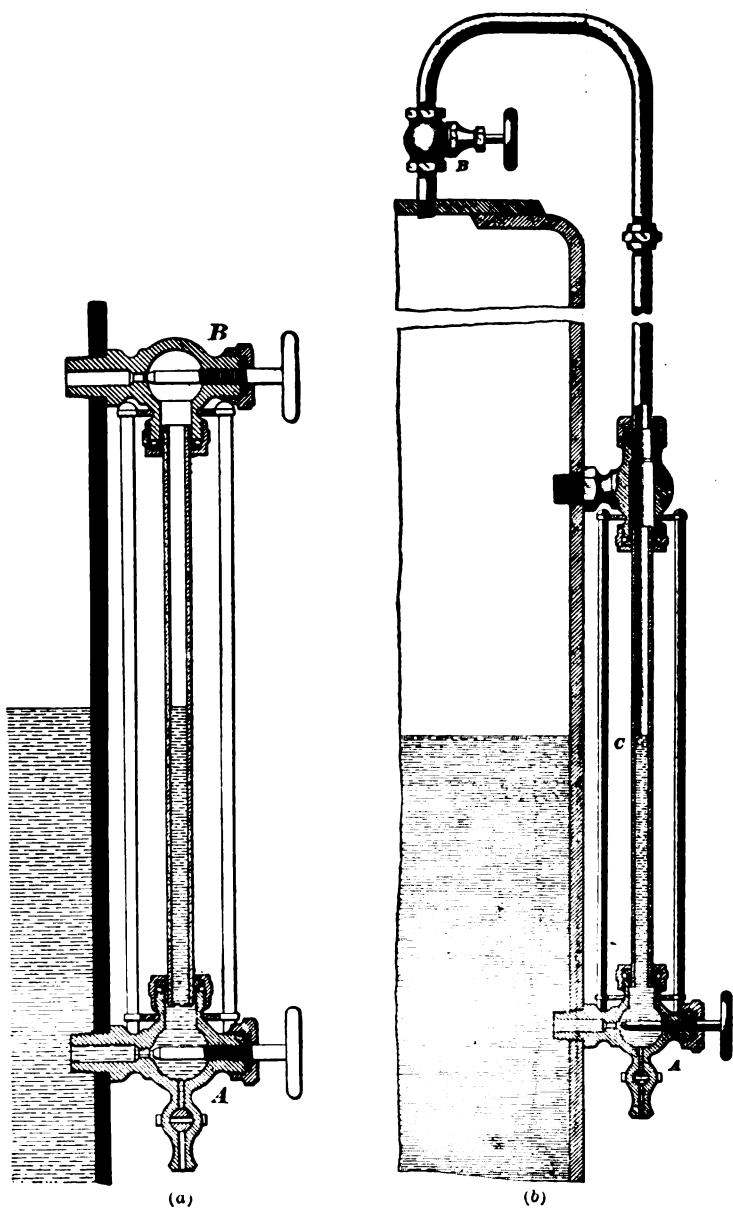

FIG. 1.
**3. Water Gauge.**—As shown in Fig. 1 (a), the **water gauge** consists of two elbow valves *A* and *B*, communicating with each other by means of the glass tube *C*. This tube is usually  $\frac{5}{8}$  inch outside diameter,  $\frac{1}{8}$  inch thick, and from 10 to 15 inches long; steam-tight joints are made between glass and metal by means of rubber gaskets. On some engines the lower valve *A* is so placed that the bottom of the glass is at the same height as the center of the lowest gauge-cock; in other cases, it is from 1 to 3 inches below that point. The best practice is to use a glass of such a length that it will indicate water levels both above the highest and below the lowest gauge-cocks, provided the length required is not so great that the glass will break too readily. With such a gauge, the exact level is known